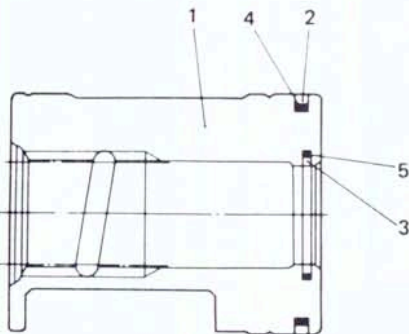

**Fig. 29—Open side of sector shaft "U" packing (3) should face inward and open side of seal (4) should face outward.**
When renewing needle bearings, position bearings in housings so press force is applied against side of bearing with manufacturer's marks. Install new oil seals, "O" rings and Teflon seal rings as shown in Figs. 29 through 34. Lubricate seals and "O" rings prior to reassembly. Apply molybdenum disulfide "Molycoat" to steering column bushing (46—Fig. 28) and oil seal (47).